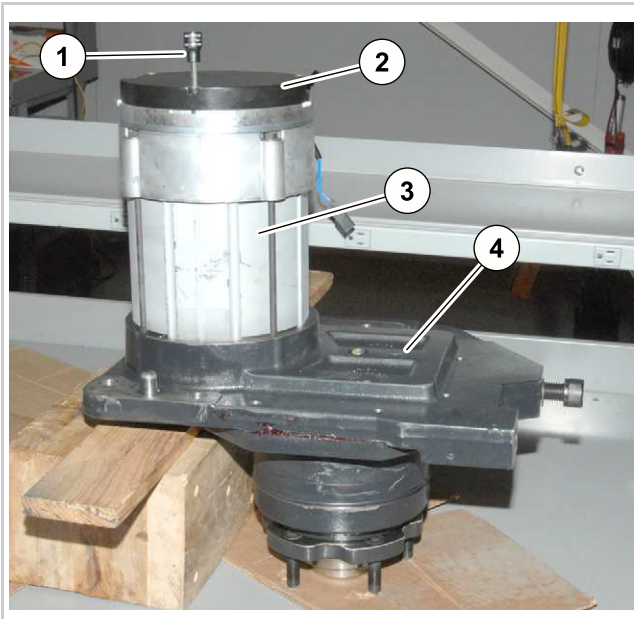

Fig. 35 (26529)
4. See Figure 35. Make sure that the seal tool (1) is clean and install it over the seal.